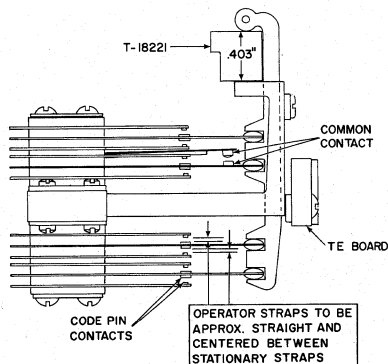

Figure 2
1. Using the parity check gauge T-18221 with the .403" side of the gauge inserted as shown (Figure 2), the movable straps of the contacts should be